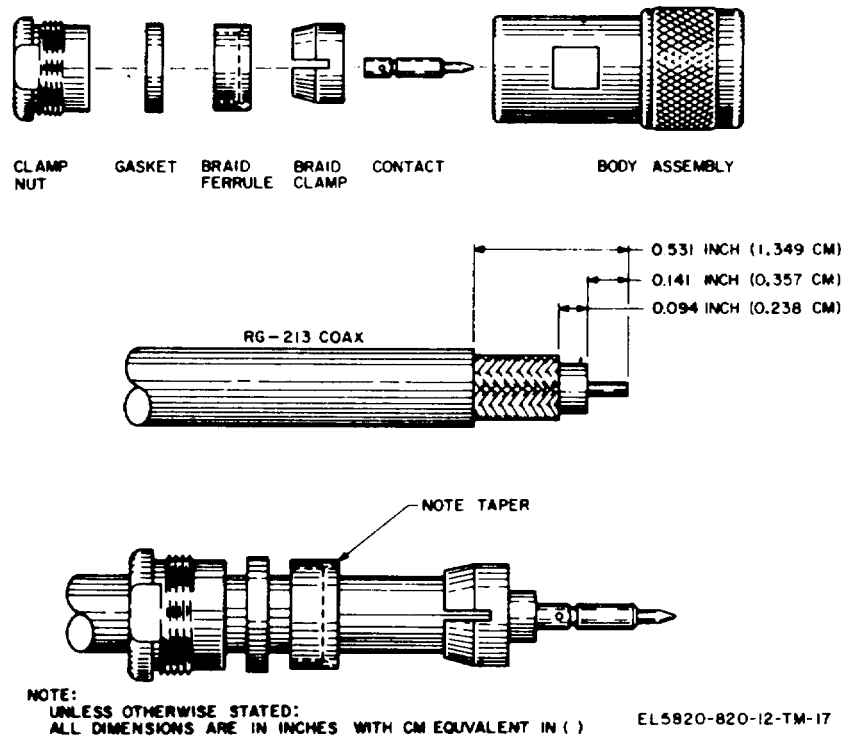

Figure 2-8. Antenna cable assembly.
(1) Refer to figure 2-8 and read the following steps carefully before proceeding with the assembly.
(2) Strip the cable jacket, braid, and dielectric to the dimensions shown in figure 2-8. Do not nick the braid, dielectric, or center conductor.
(3) Use a 30-watt soldering iron to tin the center conductor. Avoid use of excessive heat.
(4) Place the contact (figure 2-8) on the center conductor so that it butts against the cable dielectric. The center conductor should be visible through the inspection hole in the contact.
(5) Solder the contact to the cable center conductor. Do not get any solder on the outside of the contact. Avoid use of excessive heat to prevent the dielectric from swelling.
(6) Slide the clamp nut, gasket, and braid ferrule on the cable as shown in figure 2-8.
(7) Position the braid clamp over the exposed braid of the cable (figure 2-8).
(8) Slide forward as a unit the braid ferrule (tapered end toward the body assembly), gasket, and clamp nut until the threads of the clamp nut engage with the threads of the body assembly.
(9) Tighten the clamp nut until it bottoms on the body assembly. This degree of tightness affords maximum cable retention.